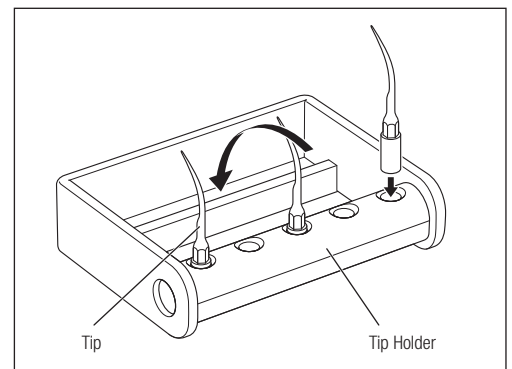

Fig. 60
- The Tip Holder is autoclavable. Up to 5 Tips can be sterilized at the same time. Rotate the Holder in the direction of the arrow so the Tips are set in the frame for sterilization (Fig. 60).